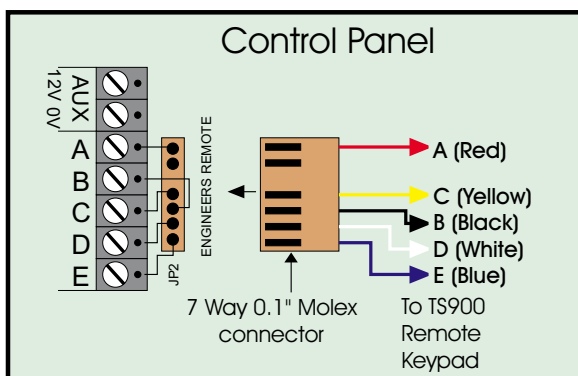

Figure 10. Engineer's Keypad Connection
2. If the LEC is being fitted inside the control panel you may remove the LEC PCB from its base and secure it to base of the control panel using self adhesive feet. If required, the tamper switch may also be disabled by fitting the jumper link across JP2, see Figure 10.
4. Connect "Remote Network" cables and detection circuit cables to the appropriate terminals, see *Figure 10*